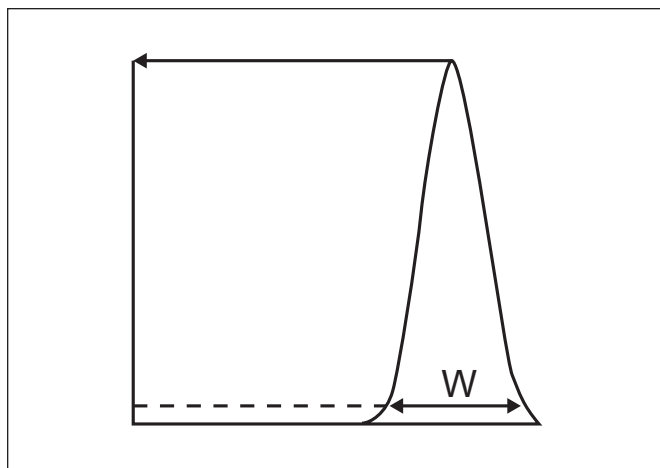

Figure 2. 5-Sigma method test calculations.
Record the retention time of the acenaphthene peak. Measure the width of the peak at 4.4% of peak height and perform the calculation shown in Figure 2. The column efficiency (N) should yield >9000 theoretical plates.